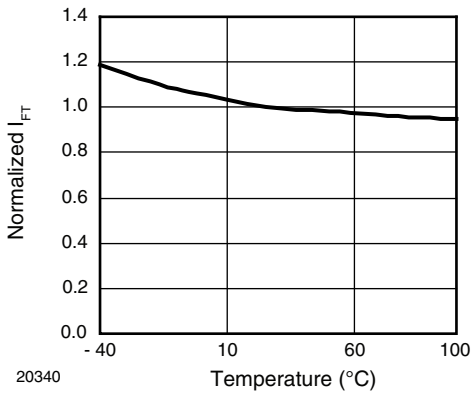

Fig. 4 - Normalized Trigger Current vs. Temperature
- According to DIN EN60747-5-5 (see figure 4). This optocoupler is suitable for safe electrical isolation only within the safety ratings. Compliance with the safety ratings shall be ensured by means of suitable protective circuits.